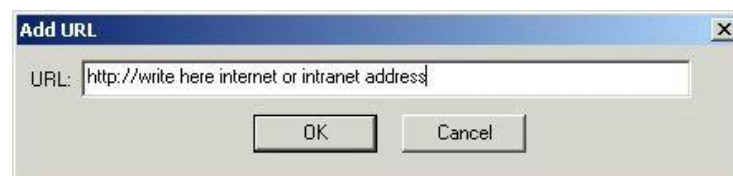

Figure 103: Dialog for Entering Internet/Intranet Addresses
- 2) Click **Add URL**. Write the exact address in the **Add URL** dialog. If the address is not typed correctly, the required page cannot be displayed. *Please refer to the Figure 103.*